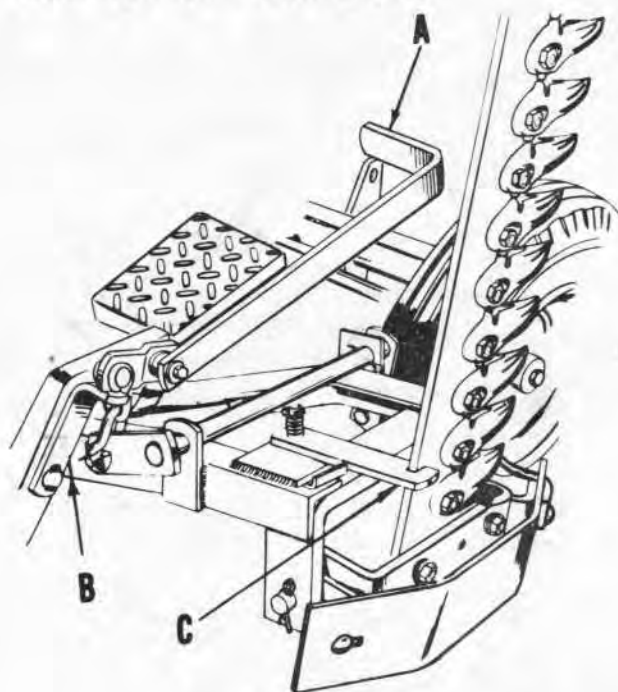

FIG. 12
Refer to Fig. 12.
Stop tractor engine. Depress on foot lift lever (A) until latch bracket (B) can be positioned as shown in Fig. 12. Secure bar in upright position with transport strap (C).